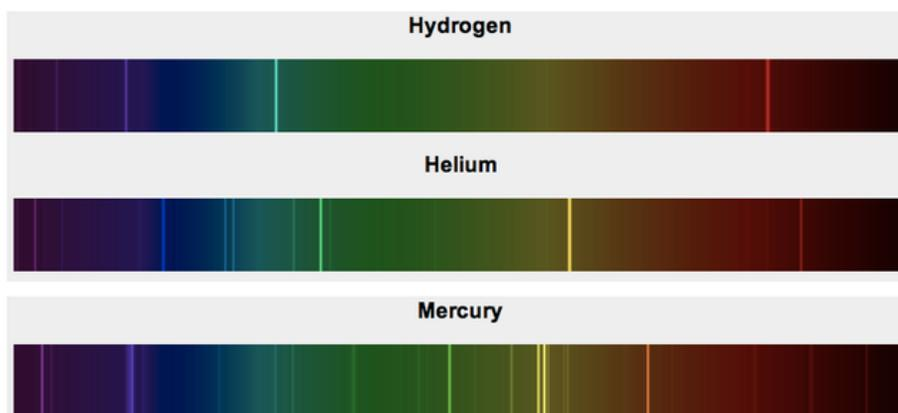

Figure 10.4: Emission spectra for hydrogen, helium and mercury.
The periodic table of the elements is also explained by the atomic model, where every element is uniquely identified by the number of protons in its nucleus. Quantum mechanics explains the energy states of the electrons in an atom. Every element in the periodic table has a distinct set of electron energy levels, so for a given element only photons of specific energies can be emitted. Therefore, when you are measuring the emission spectrum of an element, only certain wavelengths of light are allowed and the “pattern” that is produced is unique for that substance. Notice the differences in the emission spectra for hydrogen (H), helium (He) and mercury (Hg), that are shown in Fig. 10.4.